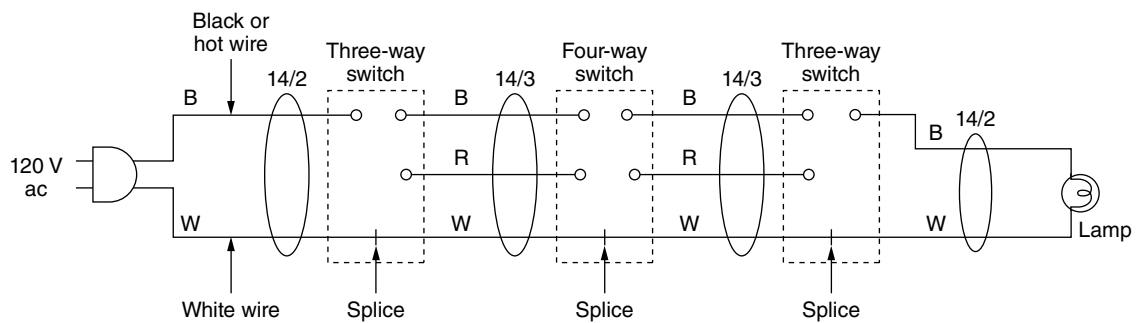

Fig. P-6
6. Draw the switching circuit in Fig. P-6 so that the switches complete the circuit and cause the lamp to light.